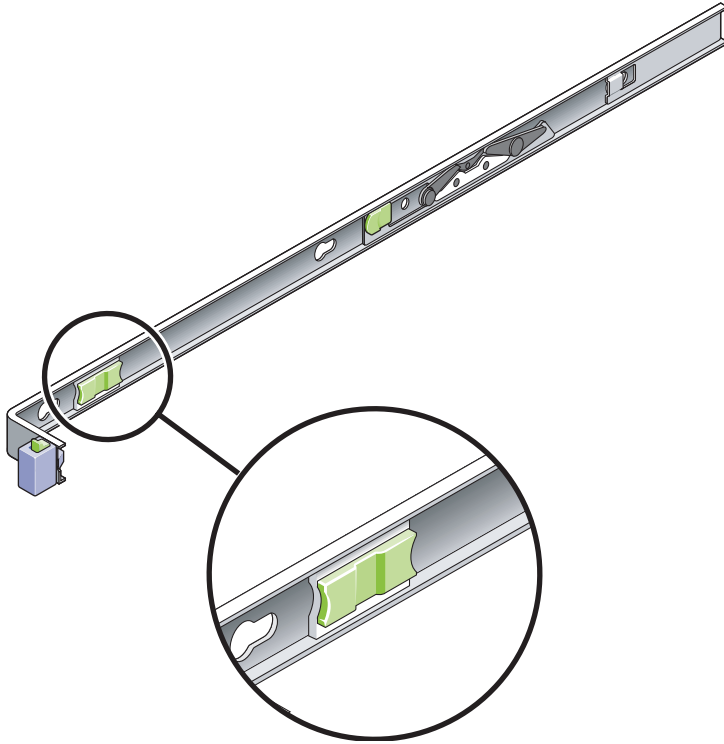

FIGURE 2-24 Slide Rail Release Button
6. Simultaneously unlock both slide rail release buttons (FIGURE 2-24), and push the server completely into the rack.